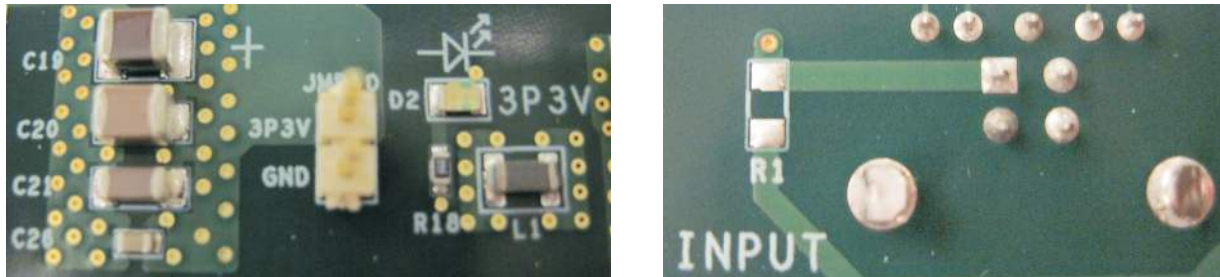

Figure 4. SN65LVPE502CP EVM location of L1, R1, and JMP10
1. Un-install the ferrite bead located at L1, and if present, also uninstall the resistor located at R1 (see Figure 4).
2. Obtain a power supply with the ability to display its current draw (or connect a current meter in series to the power supply) and connect to JMP10 (see Figure 4).